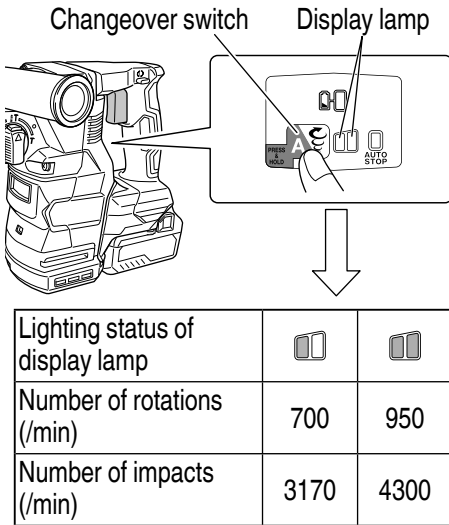

Fig. 38
- Rotation speed (Low mode/Normal mode) (**Fig. 38**)